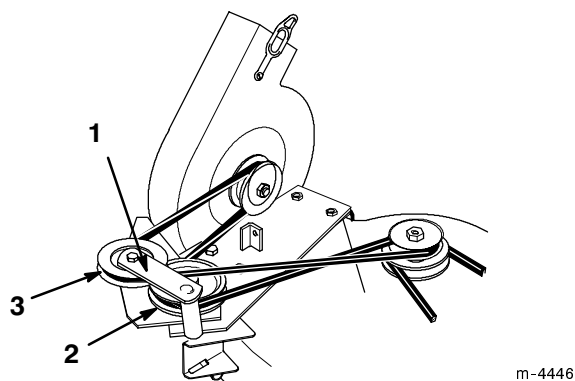

Figure 26
1. Open the latch and swing the blower out away from the mower, remove the blower belt from the mower pulley (Fig. 26).